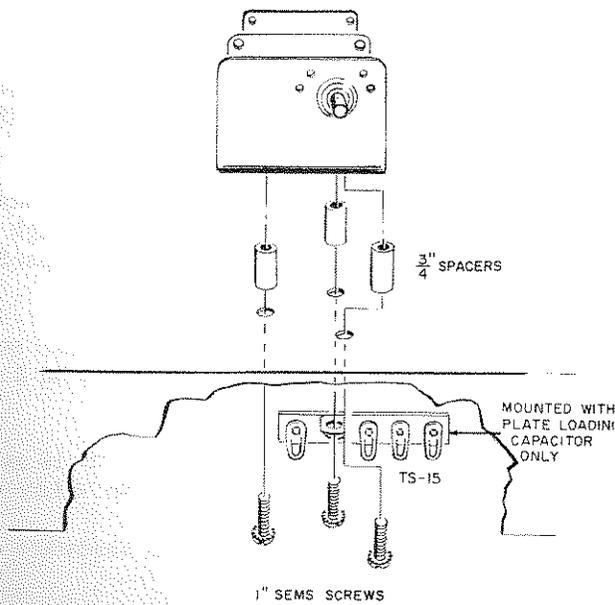

Figure 9. Mounting of Plate Tuning and Plate Loading Capacitor.
- b) Slip the spacers over the screws, and thread the screws into the three tapped holes on the bottom of the capacitor as shown in Figure 9 and Pictorial 3 (do not use terminal strip). Before tightening the screws be certain that the front edge of the capacitor is parallel with the front edge of the chassis.
- a) Insert two No. 6 x 1" sems screws through holes 40 and 41. Slip a 3/4" spacer over each screw and thread the screws lightly into the tapped holes in the bottom of the capacitor frame (see Figure 9). Do not tighten.